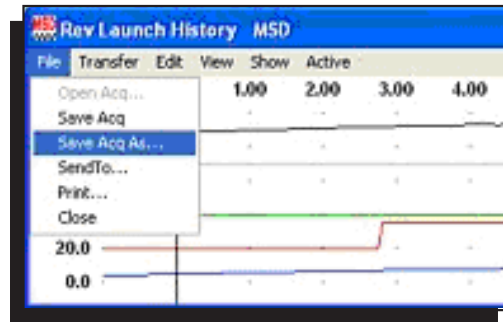

Figure 8 Saving an Acquisition File.
- At this point, it is recommended to name and save the file. From the menu bar of the Rev Launch History window, select File, followed by Save Acquire As (Figure 8).